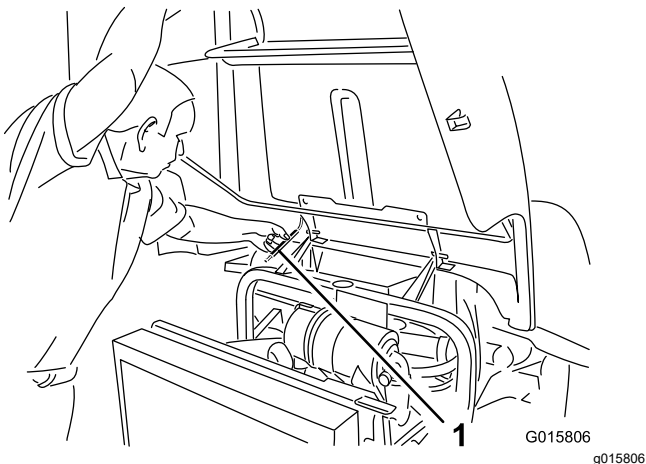

Figure 27
2. Lift up the hood until you can position the prop rod behind the frame tube (Figure 27).